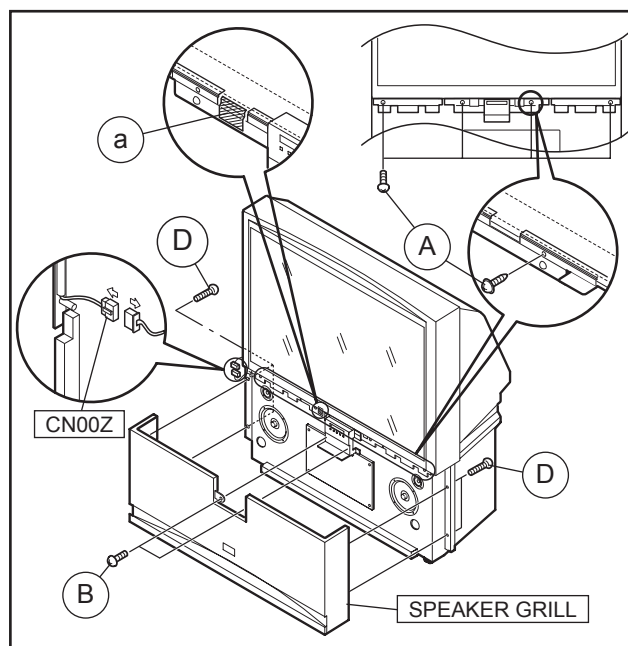

Fig.2
- (2) Remove the 2 screws [ **B** ] inside of the front door. [Fig.2]
- (3) Remove the 2 screws [ **D** ] on the left edge of the rear cover, and remove the 2 screws [ **D** ] on the right edge of the rear cover. [Fig.2]
- (4) Pull the speaker grill in front direction, and remove the speaker grill. [Fig.2]
- (5) Remove the connector [ **CN00Z** ] for the auto-convergence sensor on the left side of the set, and the clamp fixing the wire. [Fig.2]
- (6) Remove the 2 screws [ **A** ] on the left front panel bracket, and remove the 2 screws [ **A** ] on the right front panel bracket. [Fig.2]
- VOID seal [ **a** ] attached to the left front panel bracket in order to confirm that a person except JVC installation workers has disassembled the set. This seal is removed when the upper unit is removed, and the letters of "VOID" appears in the place where the seal. [Fig.2]
- (1) Lift the upper unit slowly, and then place the upper unit on the lower unit.
- (2) Adjust the front side of the upper unit to the brackets on the lower unit for attaching the upper unit.
- (3) Attach 2 screws [ **A** ] to the both side of the rear cover. [Fig.2]
- (4) Attach 2 screws [ **A** ] to the both edge of the rear cover. [Fig.2]
- (5) Attach the 4 screws [ **A** ] to the front panel bracket. [Fig.2]
- (7) Attach the speaker grill to the front side.
- (8) Attach 4 screws [ **D** ] to the both edge of the rear cover. [Fig.2]
- (9) Attach the 2 screws [ **B** ] to the front door. [Fig.2]
- (10) Attach the connector for the auto-convergence sensor.